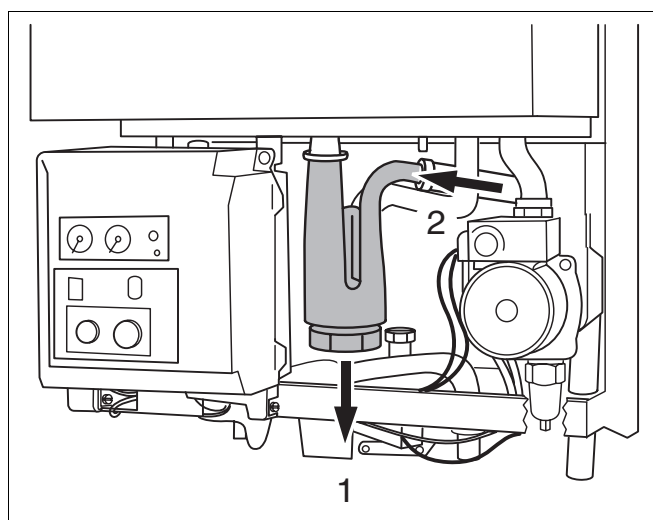

Fig. 51 Removing the condensate trap
- Remove the trap from the sleeve with the lip seal facing downwards (fig. 51, item 1) and withdraw it from the outlet (fig. 51, item 2).